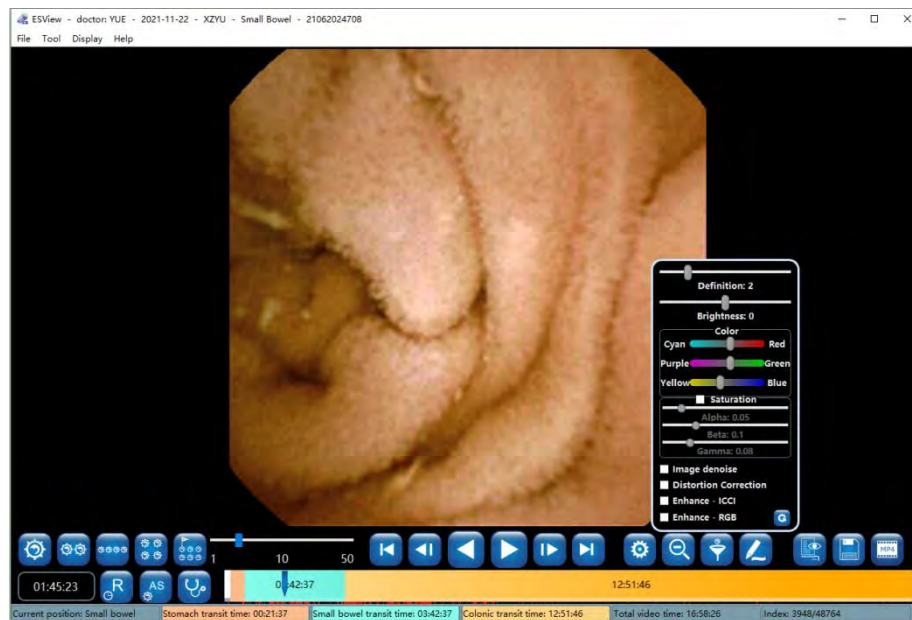

Figure 4-19: Image Processing Control Panel
- Click  to access the image processing control panel, as shown in Figure 4-19. Drag the corresponding sliders to adjust definition, brightness, and color. Checking the "Saturation" box and then drag the sliders below to adjust saturation. The image can also be processed using the software's built-in algorithms, including denoise, distortion correction, and image enhancement. It is important to note that if any one of the four options (Image denoise, Distortion correction, Enhance-ICCI, Enhance-RGB) at the bottom is selected, the adjustment of definition, brightness, and color will be disabled, and the image is automatically processed